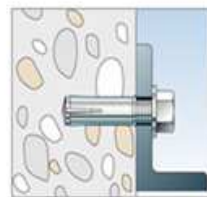

Figure 5
- 5. Screw the hexagon head screw M16x50 (do not forget the washer) through the safe into the drop-in anchor and tighten it with a torque of **60 Nm** [Fig. 5].